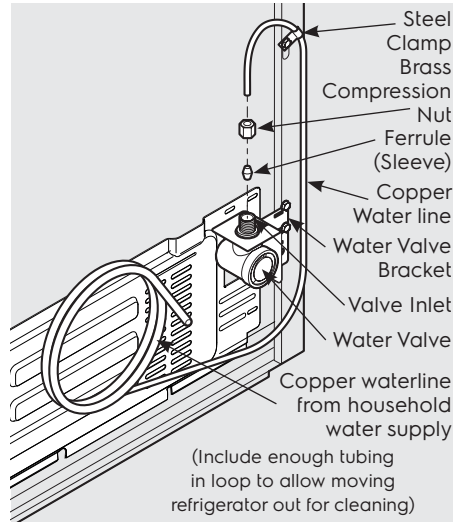

Figure 1
4. If you use copper tubing - Slide the brass compression nut, then ferrule (sleeve) onto the water supply line. Push the water supply line into water valve inlet as far as it will go ($\frac{1}{4}$ inch/6.4 mm). Slide ferrule (sleeve) into the valve inlet and finger tighten the compression nut onto valve. Tighten another half turn with a wrench; DO NOT over tighten. See Figure 1.